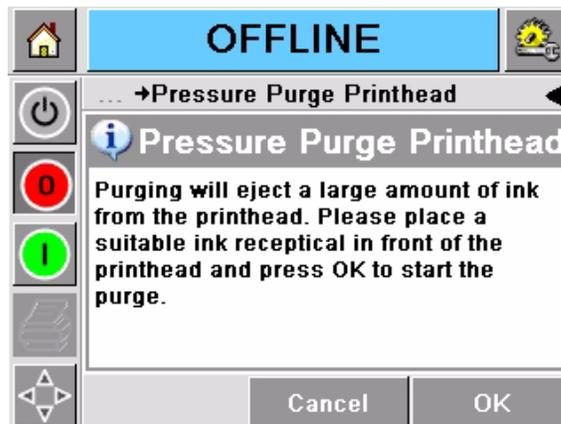

Figure 4-13: Warning Message
- 4 A warning appears as shown in Figure 4-13. Select OK.